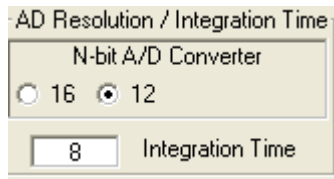

FIGURE 17.
- **Integration Time** in Figure 17 corresponds to the resolution of the internal ADC and the number of bits allocated to representing count. Higher resolution (more bits) requires a large number of counts and will need longer acquisition (integration) time.